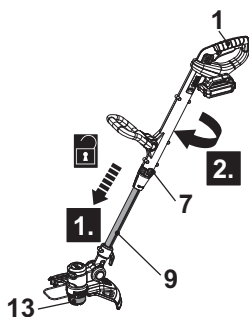

Fig. 7
1. Slide the unlock button (7) downward and turn the main handle (1) clockwise while holding lower pole (9) to adjust the trimmer head (13) to an angle of 90° or 180° (Fig. 7). Release the unlock button (7) and keep turning the main handle (1) until it locks in place. Ensure the unlock button (7) snaps into place.